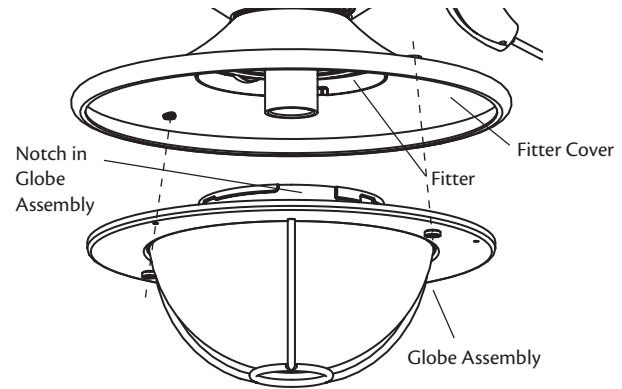

**Figure 17 - Connecting the plug connectors**
1. Connect the upper plug connector from the motor to the lower plug connector in the lower switch housing assembly. See Figure 17.
2. Place the lower switch housing assembly over the upper switch housing. Align the side screw holes in the upper and lower switch housings. Attach the lower switch housing to the upper switch housing with three #6-32 x 3/8" housing assembly screws. See Figure 17.